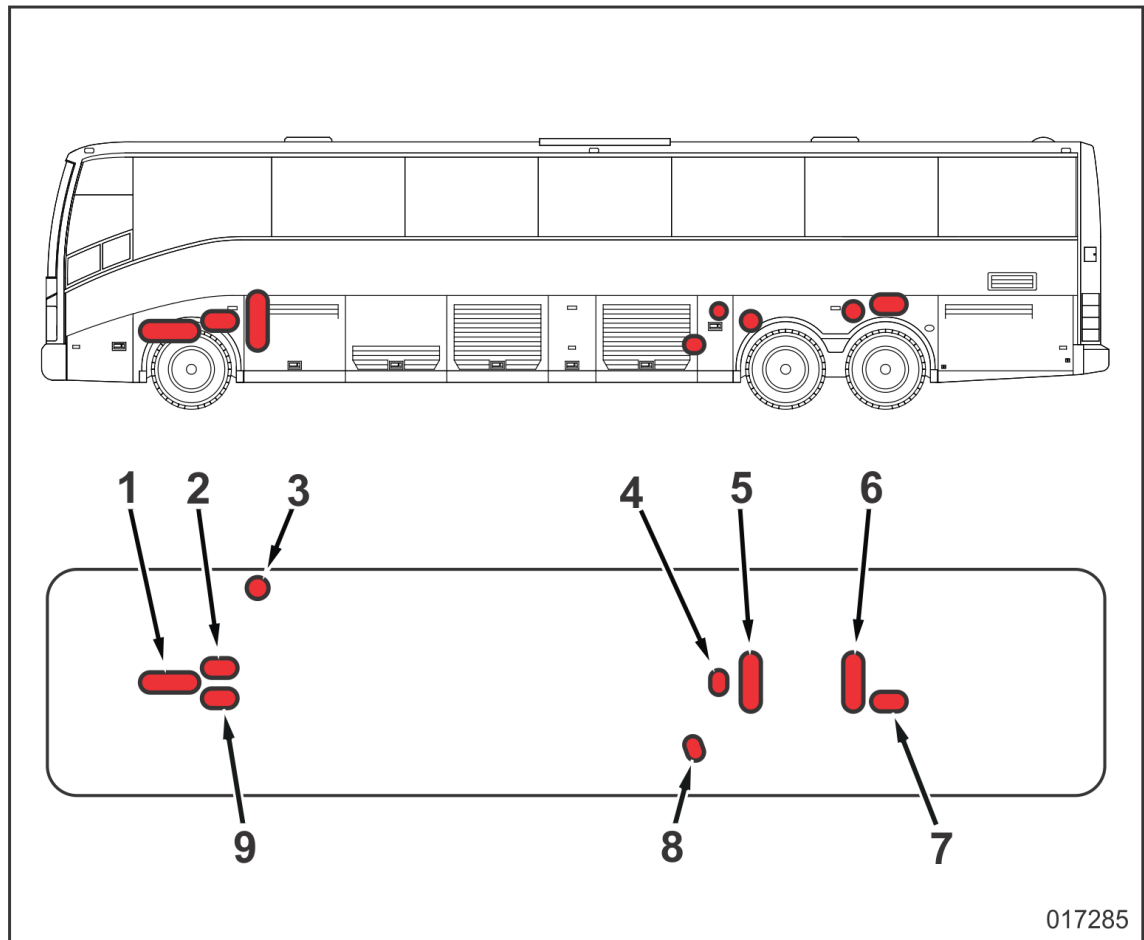

Figure 6: Location of compressed-air tank on CX45E
3.2	 WARNING! Use appropriate hearing protection while draining the air tanks. Completely drain the entire air system by using the drain cocks on the air tanks. Refer to figure 6 at the end of this service bulletin for air tanks location.  Figure 2: Compressed-air tank drain cock Left: closed Right: open 015353